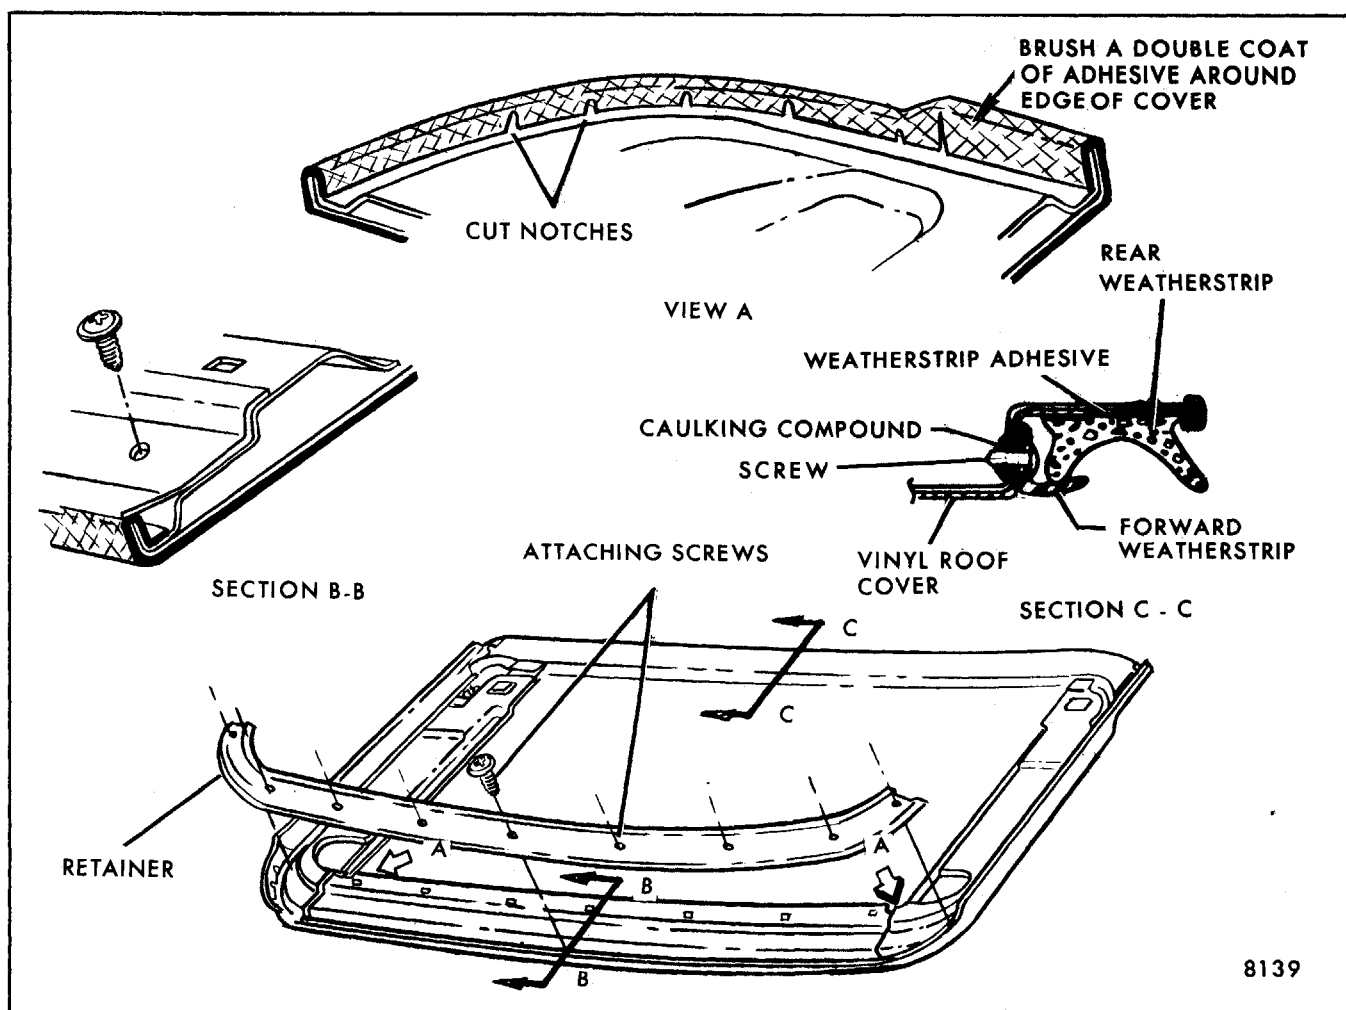

Fig. 8-40-Fabric Roof Cover Installation on Sliding Sun Roof Panel (CA1 Option)
1. Remove the following prior to removing fabric cover from sliding sun roof panel (see Fig. 8-40).
11. Apply adhesive to rear weatherstrip and contacting surface at rear of panel, then install weatherstrip, retainer and water deflector (Fig. 8-40).